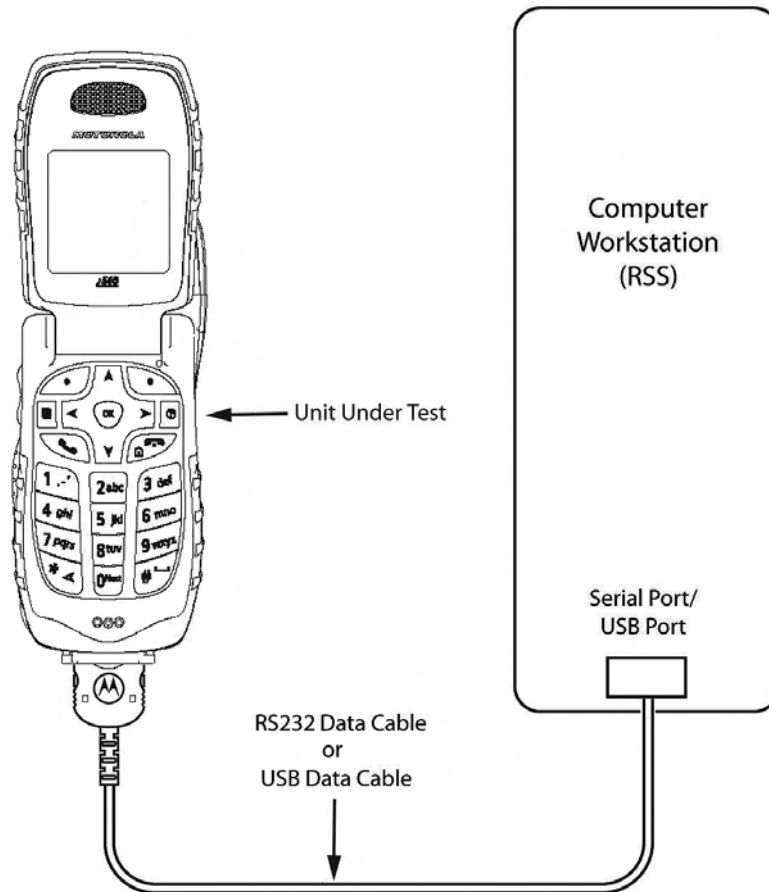

Figure 6-1. Data Cable Programming Setup
**To connect the unit to a PC using the iDEN RS-232(serial) or USB data cable (Figure 6-1):**
1. Set up your test equipment configuration. See Figure 6-1 for an illustration of this configuration.